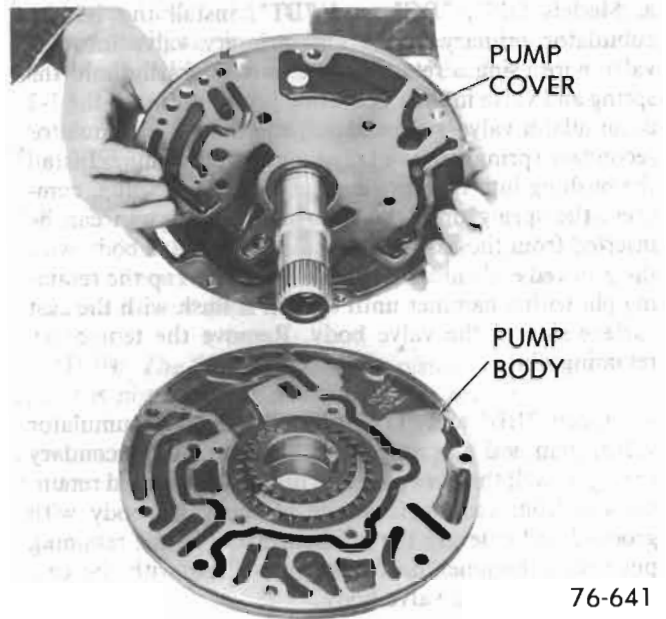

Figure 76-158
7. Remove pump cover from body. See Figure 76-158.